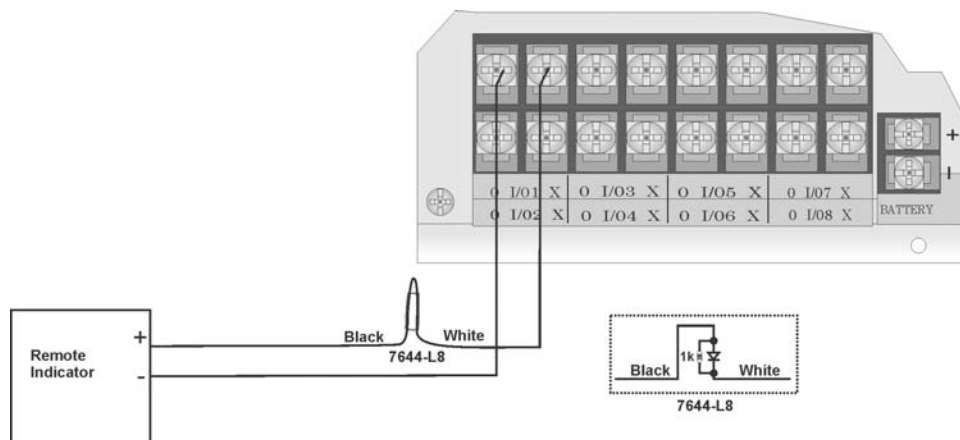

Figure 4-60 Polarity Reversal Connection Using the 7644-L8
1. Wire the 7644-L8 to the control panel as shown in Figure 4-60. Do not install an EOL resistor on the terminals of the Flexput circuit used.